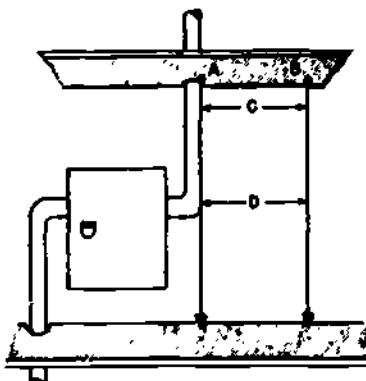

Figure 1-128. Use of Plumb Bob
- d) To plumb a structural member, or a pipe, in the plumbing system, secure the plumb line A, as in Figure 1-128, so that you can see both the line and the piece behind it. Then, by sighting, line up the member or pipe with the plumb line. If this cannot be done, you may have to secure the plumb line at some point such as B and then measure the offset from line to pipe at two different places. For instance, lengths C and D should be the same; if not, the pipe is not plumb.